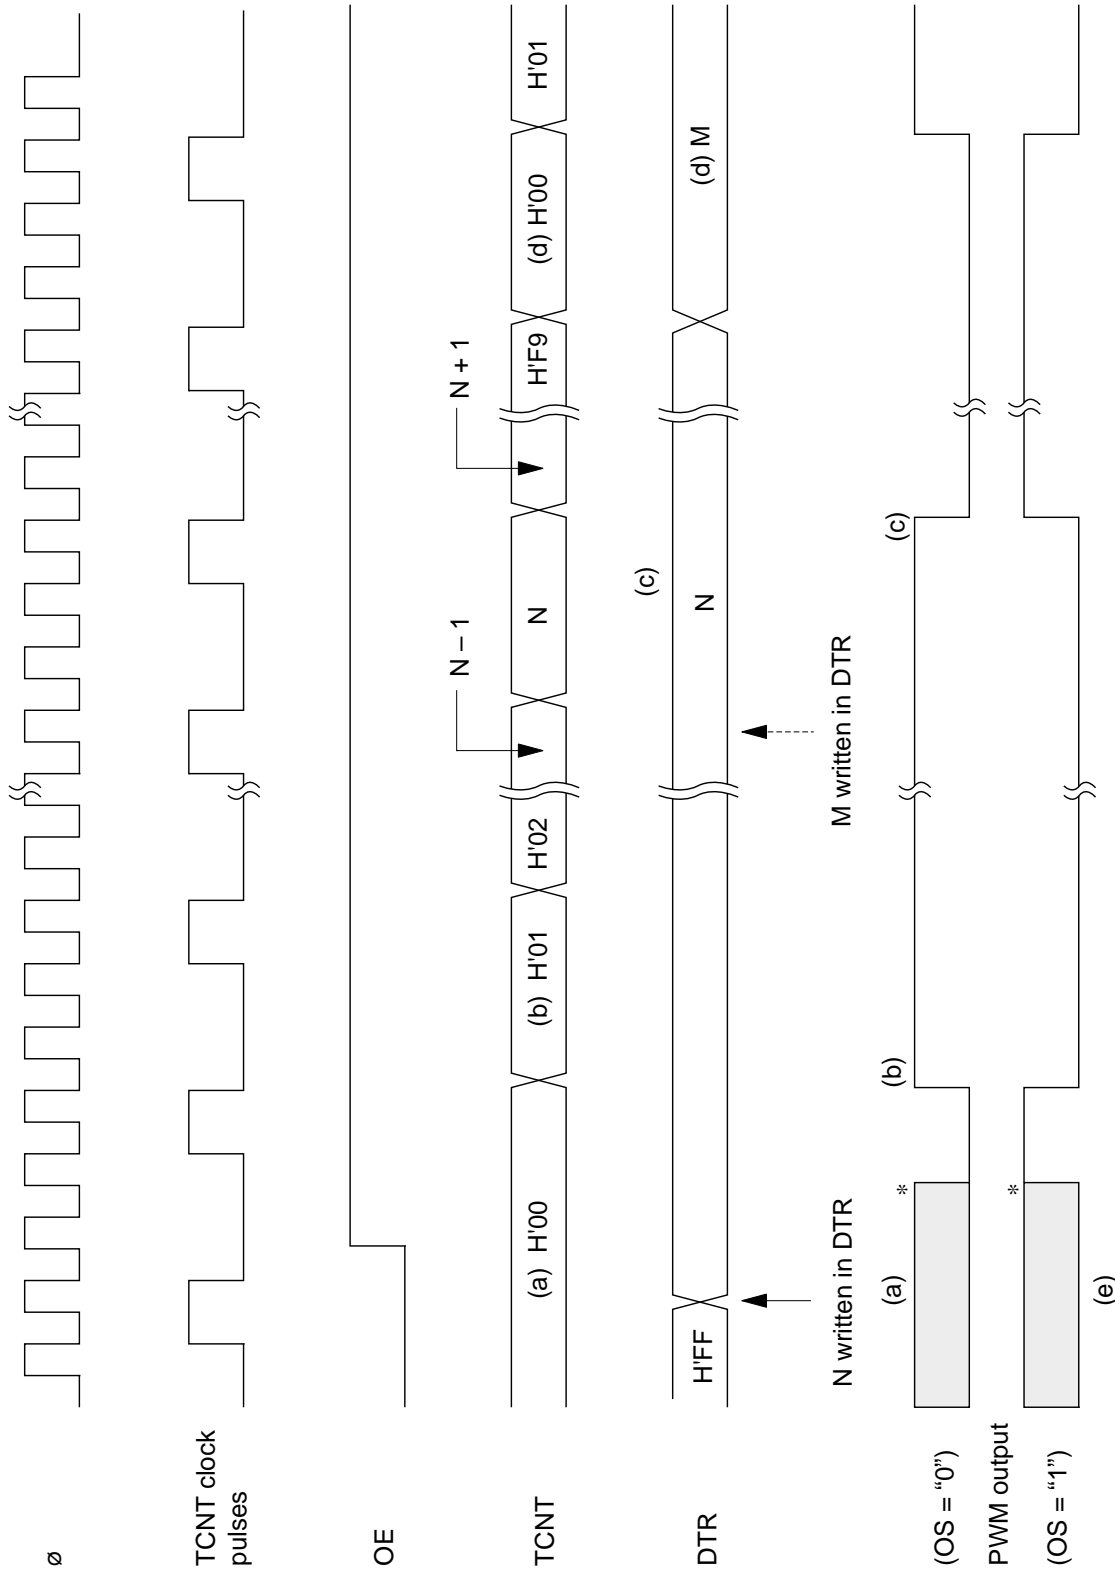

Figure 12-2 PWM Timing
Figure 12-2 shows the timing of the PWM timer operation.
(1) **When OE = 0—(a) in Figure 12-2:** The timer count is held at H'00 and PWM output is inhibited. (The pin is used for port 9 input/output, and its state depends on the corresponding port 9 data register and data direction register.) Any value (such as N in figure 12-2) written in the DTR becomes valid immediately.
(2) When OE = 1
i) The timer counter begins incrementing, and the PWM output goes High. [(b) in figure 12-2]
ii) When the count reaches the DTR value, the PWM output goes Low. [(c) in figure 12-2]
iii) If the DTR value is changed (by writing the data M in figure 12-2), the new value becomes valid after the timer count changes from H'F9 to H'00. [(d) in figure 12-2]
2. Negative Logic (OS = 1): The operation is the same except that High and Low are reversed in the PWM output. [(e) in figure 12-2]